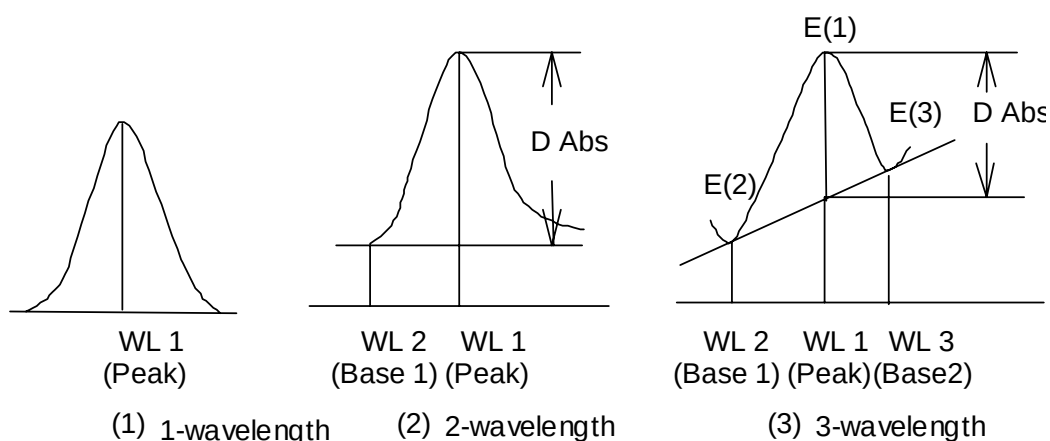

Figure 5.1 Quantitative Analysis Methods
1) No Base (1 wavelength quantitative analysis) (Refer to Fig. 5.1 (1))
2) 1 Base (2 Wavelength Quantitative Analysis) (refer to Fig. 5.1 (2))
3) 2 Base (3 Wavelength Quantitative Analysis) (refer to Fig. 5.1 (3))